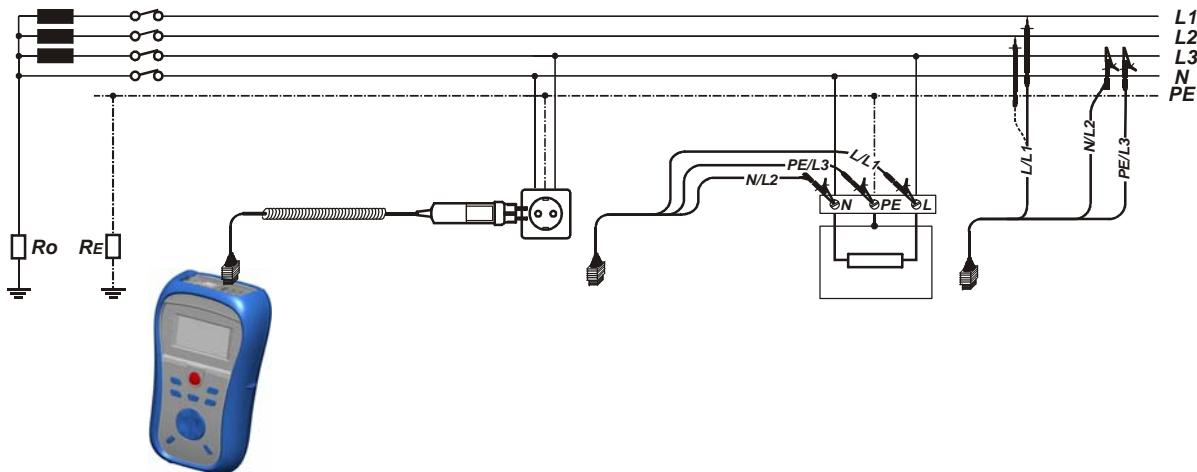

Figure 5.33: Phase-neutral or phase-phase line impedance measurement – connection of plug cable and 3-wire test lead
- Connect** test leads to the item to be tested (see figure 5.33).